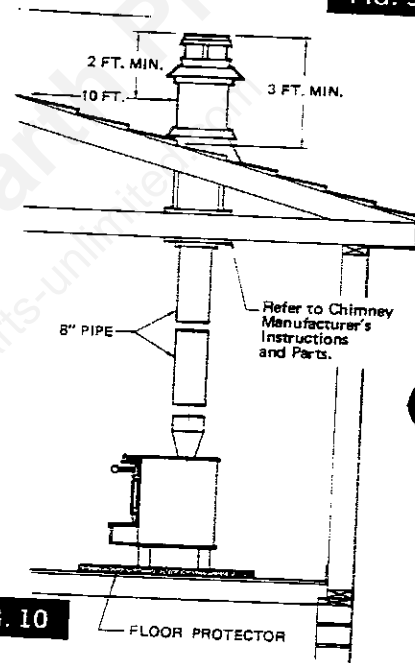

FIG. 10
1. Keep the chimney connection as short as possible. The heater must have its own chimney flue. Do not connect any other appliance to the same flue. If there is no chimney near where you wish to place the heater, you can use a UL Listed Residential Solid Fuel Factory-Built Chimney (Fig. 10).
If your chimney starts at the ceiling (Fig. 10), you will need enough pipe to reach the ceiling.
The top of the chimney must be at least 3 feet above the roof and be at least 2 feet higher than any point of the roof within 10 feet (Fig. 10).